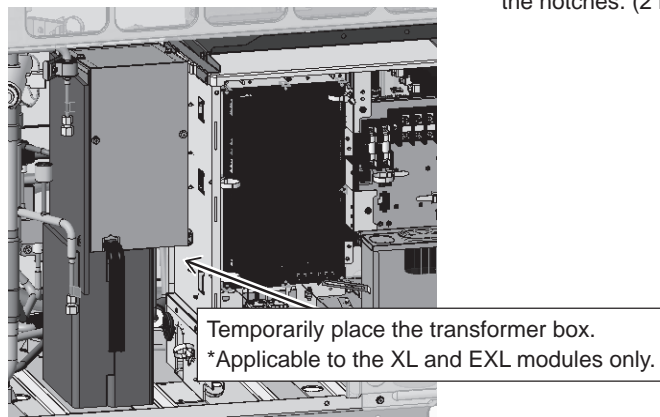

Figure 7
- (8) Temporarily place the transformer box on the cardboard support (\*applicable to the XL and EXL modules only). (Figure 7)